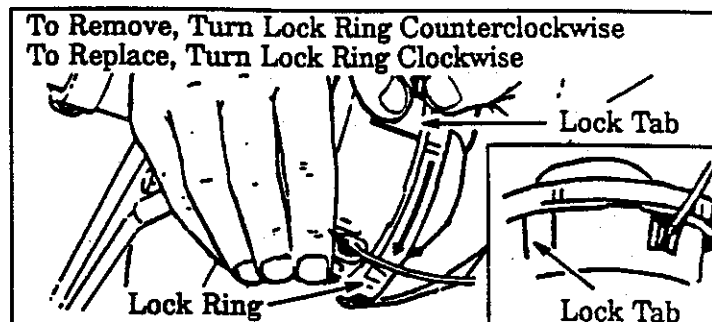

Figure 21
- a. Hold the trimmer head as shown in Figure 21. Press the lock tab and turn the lock ring as shown in Figure 21.